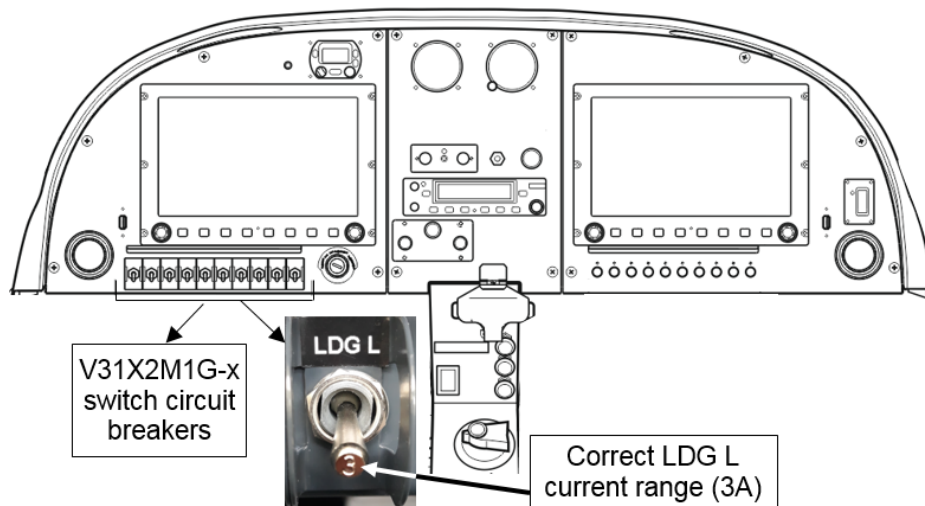

Figure 8 - The LDG L W31X2M1G-x switch circuit breaker. Placed on the left instrument panel
NOTE: Numbering of parts used in this Section 3 belongs to the Figure 8, 9 and 10.
Note: The instrument panel on Figure 8 is illustrative only, and may differ depending on the aircraft equipment.
- 3.1 Determine the LDG L switch circuit breaker (text “LDG L”) on the left instrument panel, see Figure 8.